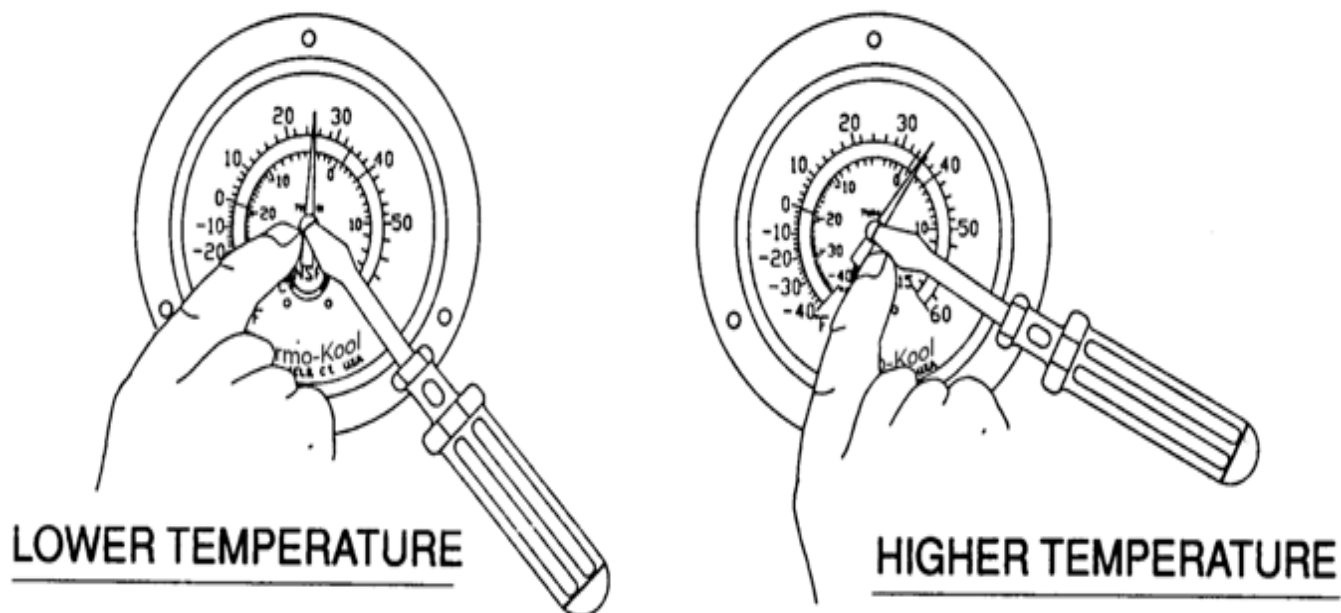

FIGURE 30 - Dial Thermometer Calibration
3. To lower the temperature indicated by the dial thermometer, place an index finger at the left side of the wide end of the needle, but close to the hub. This will prevent the needle from moving during the adjustment. Insert the screwdriver into the hub slot and slowly turn the screwdriver clockwise. Adjust the needle to the temperature read from the other thermometer (Refer to Figure 30 below).
4. To raise the temperature indicated by the dial thermometer, place an index finger at the right side of the wide end of the needle, but close to the hub. This will prevent the needle from moving during the adjustment. Insert the screwdriver into the hub slot and slowly turn the screwdriver counter clockwise. Adjust the needle to the temperature read from the other thermometer (Refer to Figure 30 below).